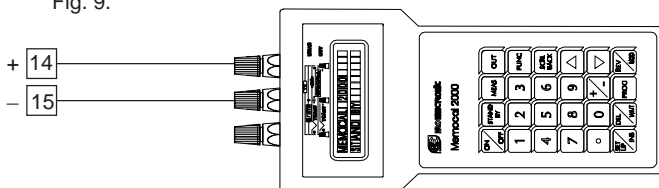

Fig.9
- 1) Connect the instrument under test to the calibrator as shown in Fig. 9.